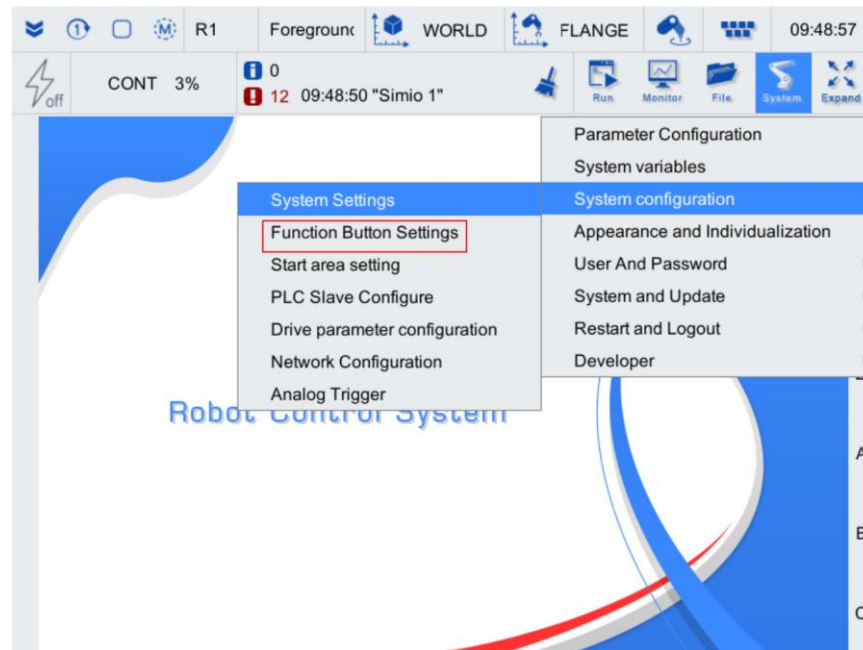

Figure 6-11 Teach pendant main interface
- Step3. Click on [System/System configuration/Function Button Settings] on the main interface of the teach pendant, as shown Figure 6-11.